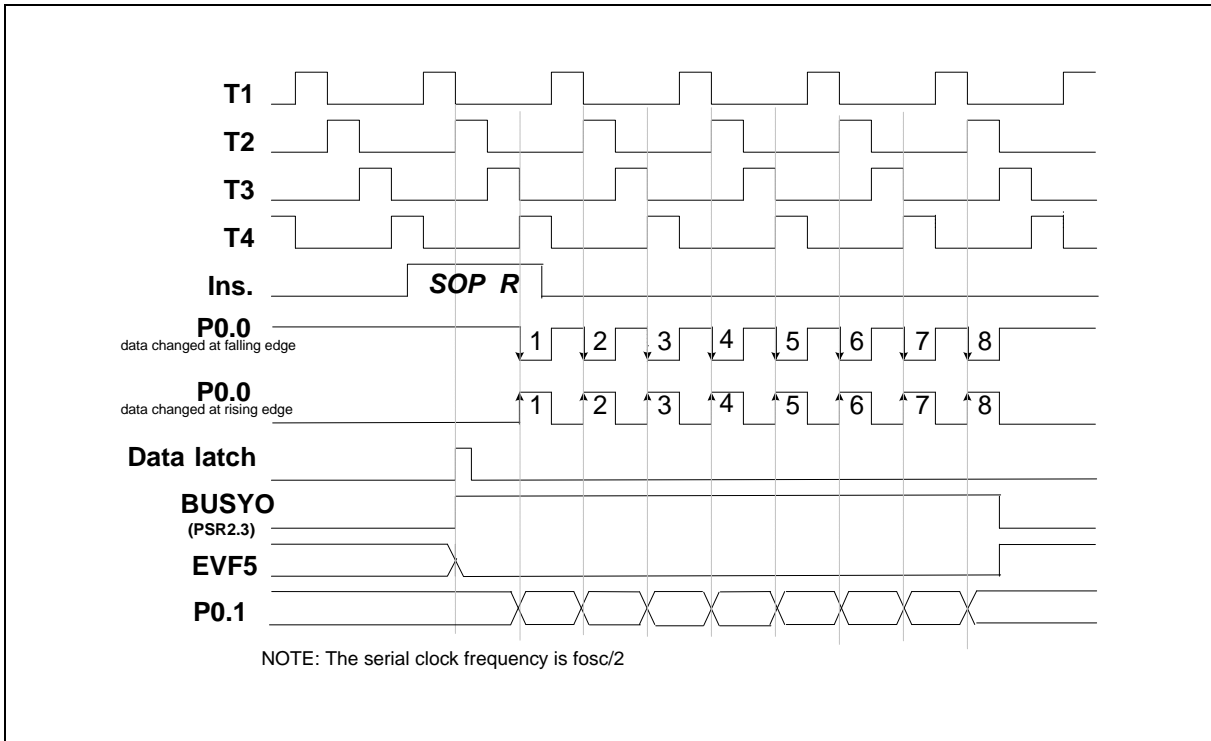

Figure 5-13 Timing of the Serial Output Function (SOP R)
(2) When the **SOP R** instruction is executed, the data will be loaded to the serial output buffer (SOB) from ACC and the RAM, the low nibble data of SOB is from ACC register and the high nibble data is from RAM, and bit 3 of port status register 2(PSR2) will be set to "1" ($BUSY_O = 1$). Then the P0.0 pin will send out 8 clocks or accept 8 clocks from external device and the data in SOB will be sent out at the rising or falling edge of the P0.1 pin. After the 8 clocks have been sent, $BUSY_O$ will be reset to "0" and $EVF.5$ will be set to "1." At this time, if $IEF.5$ has been set ($IEF.5 = 1$), an interrupt is executed; if $HEF.5$ has been set ($HEF.5 = 1$), the hold state is terminated. Users can check the status of PSR2.3 ($BUSY_O$) to know whether the serial output process is completed or not. If a serial output process is not completed, but the SOP R instruction is executed again, the data will be lost. The timing is shown in Figure 5-13.